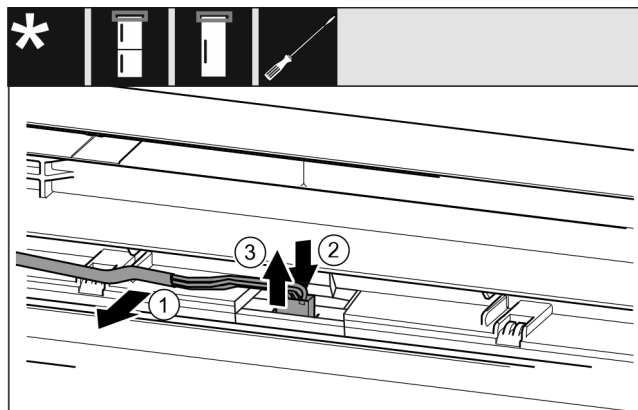

Fig. 11 Fridge/freezer combinations / freezers / refrigerators
- Release the cable Fig. 11 (1) from the guide in the door carefully.
- Push the tab Fig. 11 (2) behind the plug backwards.
- Pull the plug Fig. 11 (3) out upwards carefully.